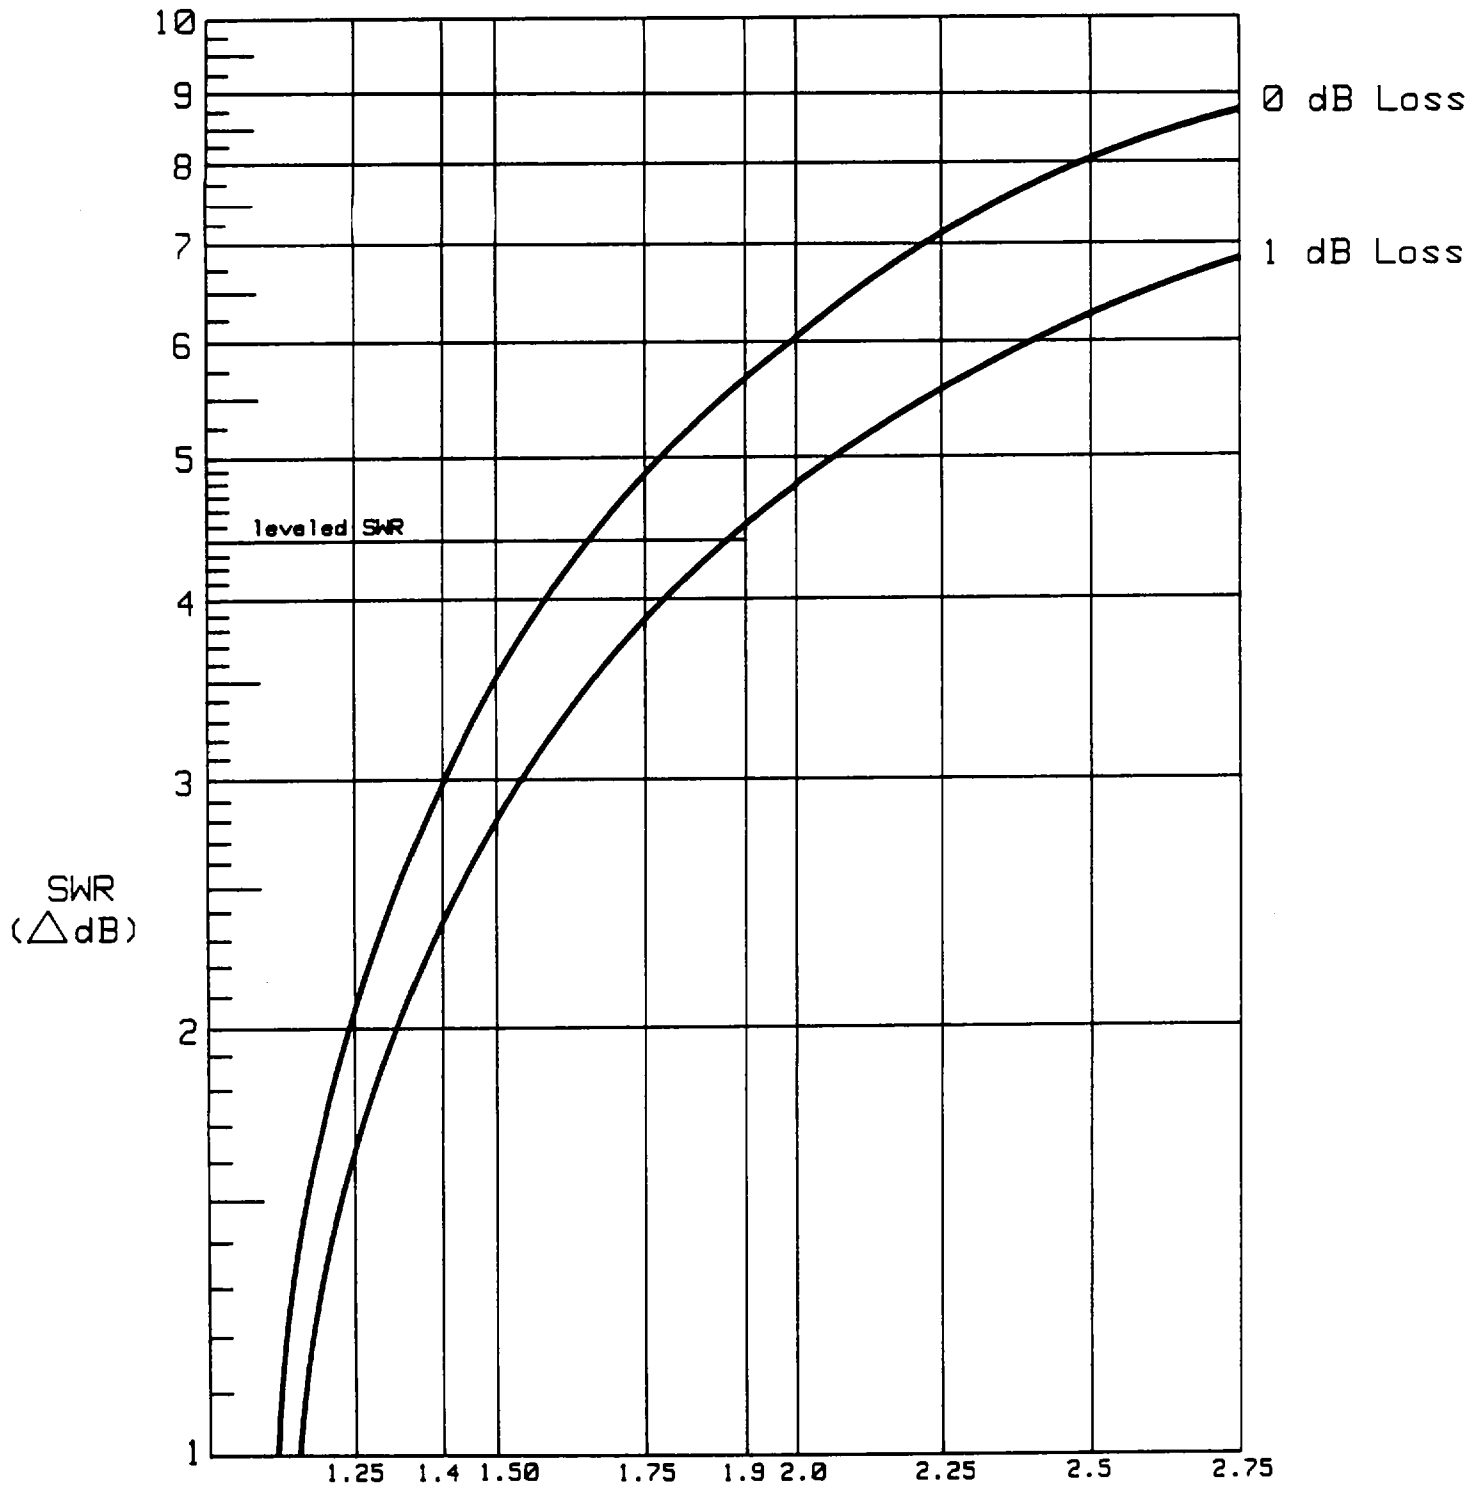

Figure 3-7. Conversion Chart
7. Calculate the SWR using Figure 3-7 as follows:
Because the test configuration in Figure 3-7 specifies that the external mixer be connected to the coupled arm of a 20 dB directional coupler, the coupled power must also be taken into account when calculating reference level offset. The new equation is as follows: